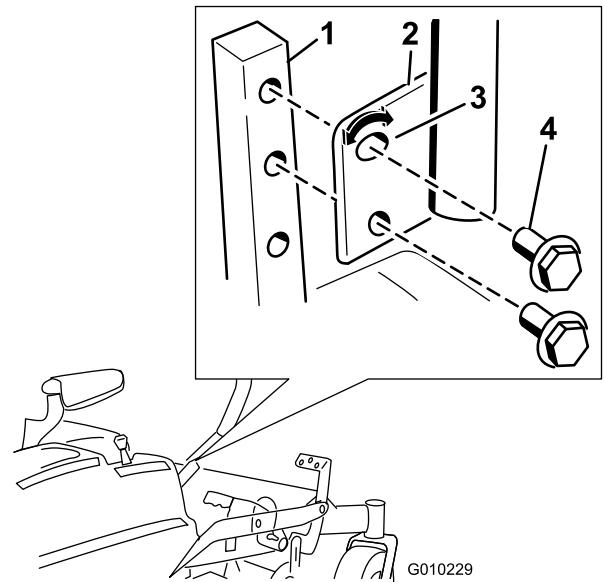

Figure 29
1. Remove the 2 bolts holding the control lever to the control arm shaft (Figure 29).
2. Move the control lever to the next set of holes. Secure the lever with the 2 bolts (Figure 29).
2. Loosen the lower bolt just enough to pivot the control lever fore or aft (Figure 29). Tighten both bolts to secure the control in the new position.